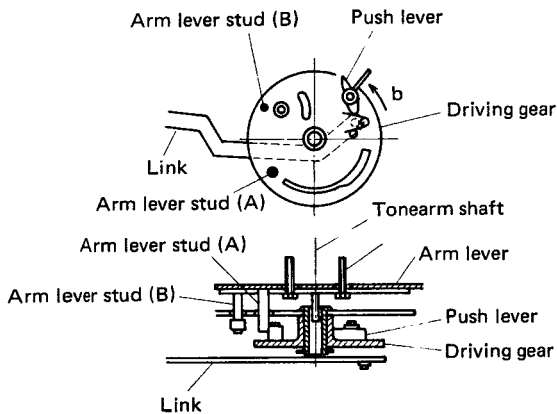

Fig. 9
When the elevator cam functions, the elevator is lifted by the inclined face and the pick-up arm moves upward. As shown in Fig. 9, the reciprocating movement of the driving gear actuates the push lever in the direction of *b* and moves the arm lever stud (B). The arm lever functions together with the driving gear to return the tonearm to the arm rest, thus completing the lead-out operation. See Fig. 9.